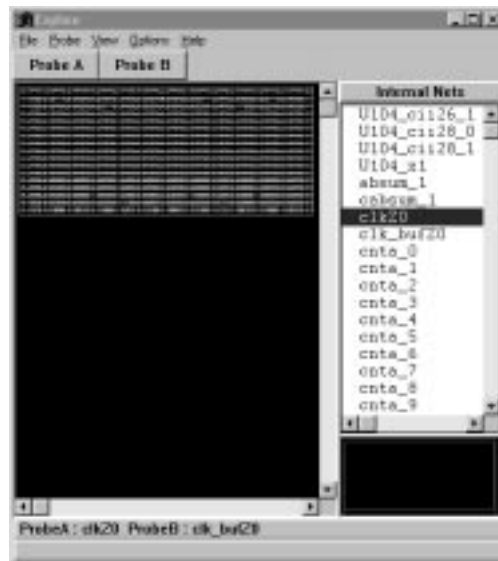

Figure 7-3. Explore Window
The Explore window is accessed through the APSW programming software. Figure 7-3 shows the Explore window that is displayed when the Action Probe software is invoked.
4. **Invoke the Action Probe software.** Click the Action Probe button or choose the Action Probe command from the Tools menu. The Explore window is displayed (Figure 7-3). A message is displayed in the APSW main window stating "Debugger Initialization Complete."
4. **Invoke the Action Probe software.** Click the Action Probe button or choose the Action Probe command from the Tools menu. The Explore window is displayed (Figure 7-3). A message is displayed in the APSW main window stating “Debugger Initialization Complete.”